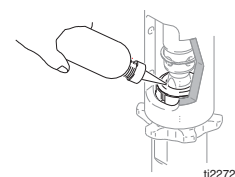

FIG. 12
- 3 (Fig. 12) Fill packing nut with Graco TSL.